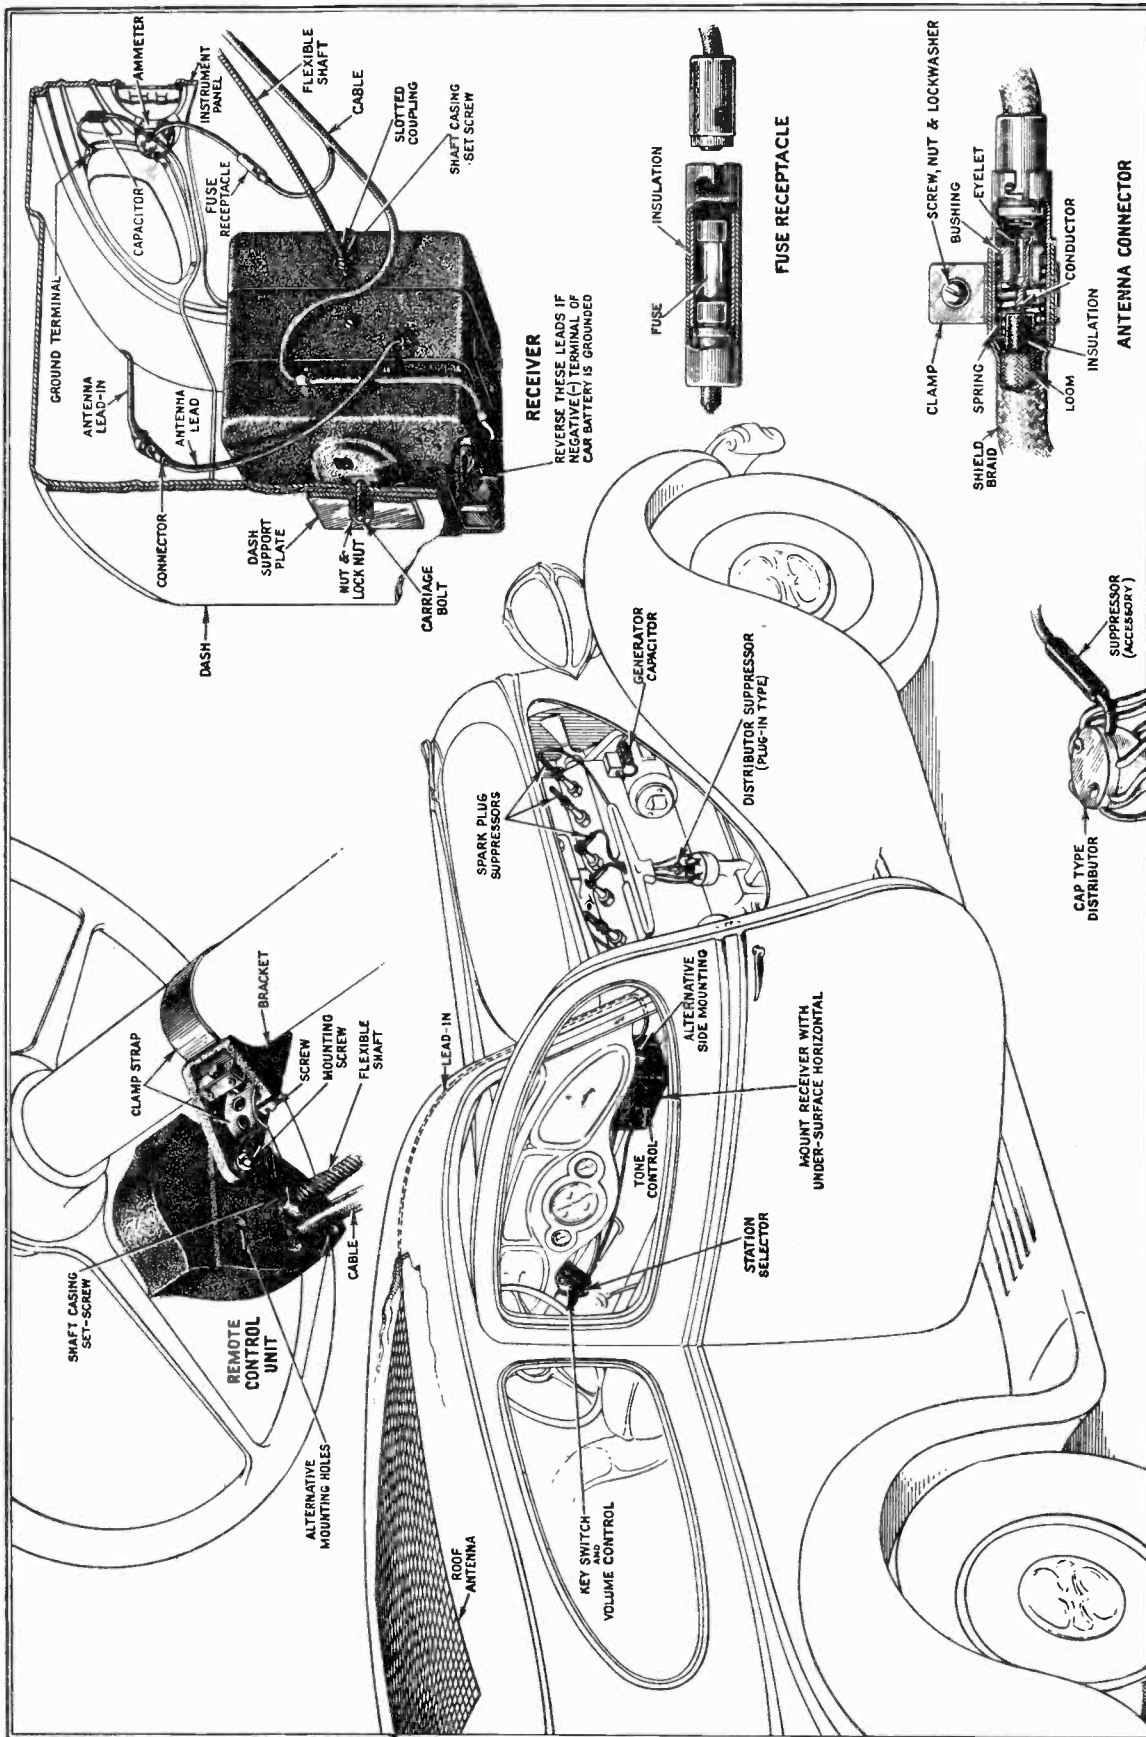

Figure 1
Receiver and Remote Control Units—The arrangement of units shown in Figure 1 is recommended and will be found applicable to the majority of automobiles. Consideration should be given to the possibility of interference of the receiver with other equipment beneath the instrument panel or of the mounting bolt with apparatus on the engine side of the dash. By placing the receiver unit toward the right-hand side of the dash, the flexible shaft will be of correct length as furnished in practically all cases. This position, however, may be considered impractical because of its universal preference for heating devices, necessitating installation of the receiver unit either near the center or at the extreme left-hand side of the dash and the use of a shorter flexible shaft. In such cases, the shaft may be either short-
Details of mounting the various units are shown in Figure 1. The following procedures are recommended:
NOTE—At this point, it will be advisable to determine the electrical polarity of the storage battery supply. This may be done most conveniently by making an examination of the battery connections and ascertaining which terminal is grounded (that is, connected to the frame of the car). The positive terminal is usually marked (+) and tends to form corrosion far more rapidly than the negative (—). If the positive terminal is grounded, no change in the electrical connections of the receiver unit will be required. However, if the opposite is true, the two leads (equipped with spade terminals) located beneath the radio chassis as shown in Figure 1 must be reversed.
Remote Control Unit—In attaching the remote control unit to the steering column of the car, it will be advisable first to examine the detailed view (in Figure 1) showing the assembly of its mounting bracket. Four small holes are contained in the associated flexible strap at distances proper for use with steering columns of the most common diameters ($1\frac{1}{2}$, $1\frac{3}{8}$, $1\frac{3}{4}$, $1\frac{7}{8}$ inches) but the strap length will be found sufficient to permit the insertion of an additional hole if necessary to accommodate a 2 inch column. The proper hole may be determined by wrapping the clamp strap tightly around the column, inserting the machine screw furnished through that hole found to be nearest in alignment with the tapped hole in the clamp bracket. Three tapped holes are provided in the back of the remote control unit, permitting support of that unit either at the right- or left-hand side or above the steering column.
Refer to Figure 1 and make connections as follows:
Refer to the detailed view of the antenna connector shown in Figure 1 and proceed to attach the lead-in wire (if shielded) as follows: First, cut the end of the lead-in so that the internal insulated wire and loom (if present) are flush with the end of the shield covering and push back the shield approximately $1\frac{1}{2}$ inches. Cut the loom to the end of the
1. Disconnect all wires from the spark plugs. Fasten one spark plug suppressor to the top of each plug and re-attach the wires to the free ends of the suppressors. These suppressors may be mounted either in line with or at right angles to the plugs (as shown in Figure 1) in order to avoid interference with metallic parts grounded to the engine or frame.